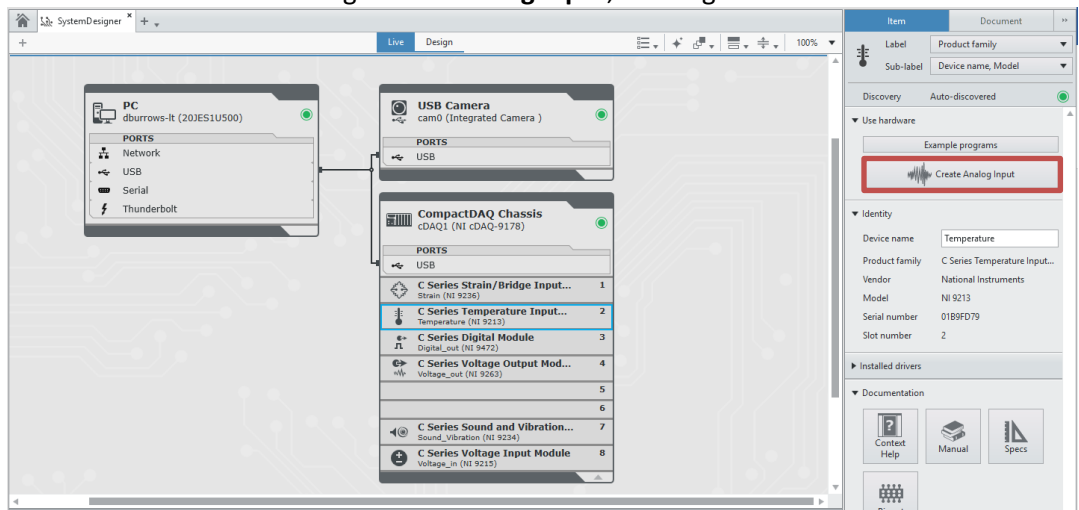

Figure 1-7: Create a Measurement Panel to begin acquiring temperature data.
1. You will use the NI 9213 and a Measurement Panel to acquire thermocouple data. Create a Measurement Panel for the NI 9213 to instantly see incoming temperature data by selecting the 9213 module and clicking **Create Analog Input**, as in Figure 1-7.